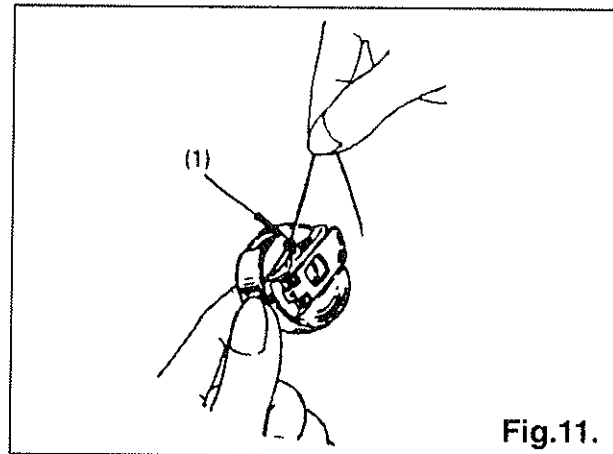
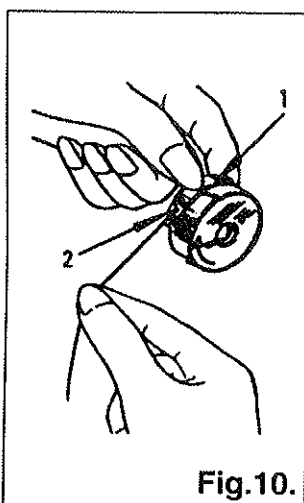

Fig.11.
Fig.10.
3. Draw thread out from slot (2) on end of spring (1), (Fig.10) and pass it through bobbin case thread guide (1), Fig.11. Allow about 4 inches of thread to hang freely from bobbin.
NOTE: When straight stitching, a better result can be obtained if bobbin thread is not threaded through bobbin case thread guide (1), Fig.11.